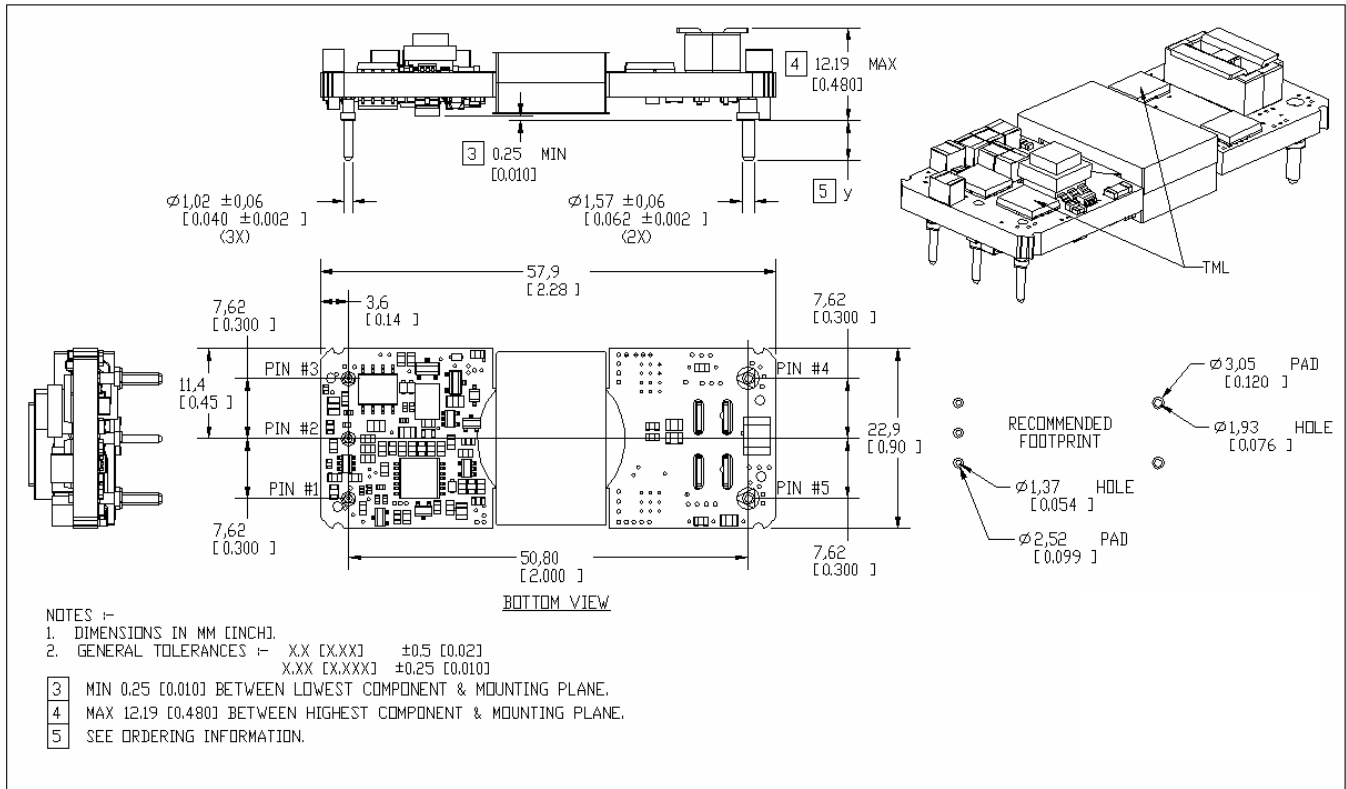

Figure 1
- (1) $V_{in} = 48V_{dc}$, $T_a = 25\text{ }^{\circ}\text{C}$, Airflow = 200 LFM for all data unless otherwise noted.
- (2) Output Ripple Voltage and noise is specified when measured with no external capacitance.
- (3) Transient response is specified without a capacitor at the output of the converter.
- (4) Thermal shutdown is monitored at the Thermal Measurement Location (TML). See 'Mechanical Information' on page 3 for TML location.
- (5) See 'Safety Considerations' shown in Figure 1.
- (6) De-rating curves are conducted in a controlled environment. End application testing is required to ensure the Thermal Measurement Location temperature is below the maximum specified. Recommended airflow direction is from pin 1 to pin 3, or 3 to 1 (transverse to the unit)
- (7) Current share accuracy is optimized when the source and load impedance presented to each converter is equal.
- (8) Input Reflected Ripple is specified when measured with a 12uH source inductance.